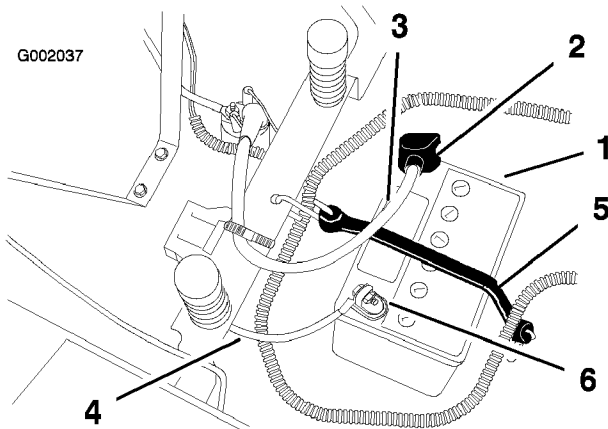

Figure 31
4. Disconnect the negative (black) ground cable from the battery post (Figure 31).
- Slide the rubber cover up the positive (red) cable. Disconnect the positive (red) cable from the battery post (Figure 31).
- Remove the battery hold-down (Figure 31) and lift the battery from the battery tray.
- Position the battery in the tray with the terminal posts toward the rear (Figure 31).
- Secure the cables with 2 carriage bolts (1/4 x 3/4 inch), washers (1/4 inch), and wing nuts (1/4 inch) (Figure 31).
- Secure the battery with the hold-down (Figure 31).